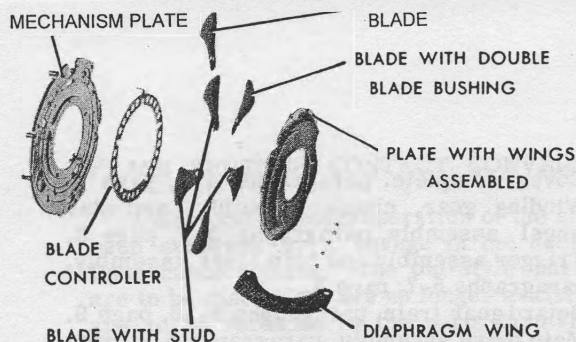

Figure 13
15. Diaphragm retainer PLATE WITH WINGS ASSEMBLED, figure 13.
4. Proceeding counterclockwise, replace four BLADES WITH STUD, figure 13, allowing the wide end of each blade to overlap the narrow end of the preceding blade.
BLADE CONTROLLER with contact stud, figure 13, not flat.	Straighten or replace the blade controller.
Too much play between mechanism plate and diaphragm retainer PLATE WITH WINGS ASSEMBLED, figure 13, due to retainer plate being bowed.	Replace the diaphragm retainer plate with wings assembled.